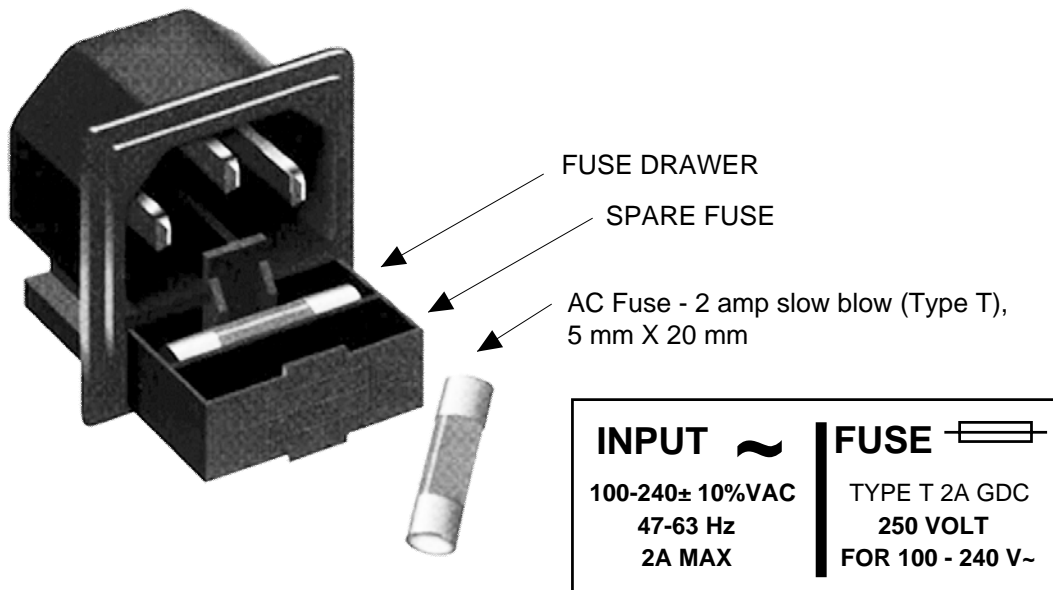

FIGURE 2.4 Fuse Location and Spare Fuse
7. AC Fuse - The fuse is a 5 mm X 20 mm, 2 amp slow blow (Type T) and is inserted in the far slot in the drawer below the AC input as shown in Figure 2.4. There is a spare fuse in the near slot. If a fuse continues to open, the power supply is most likely defective.